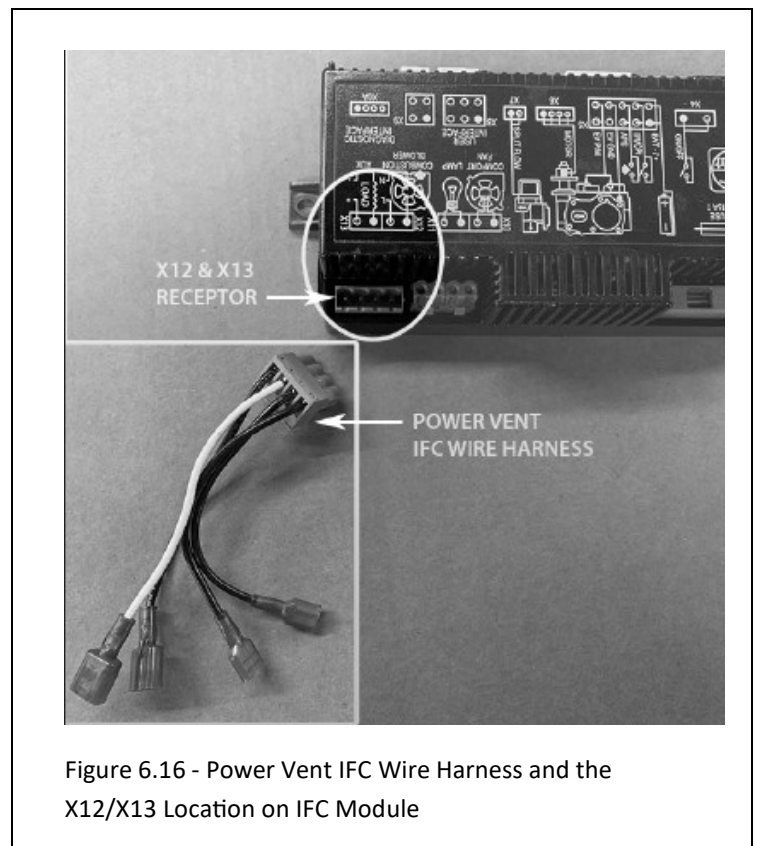

Figure 6.16 - Power Vent IFC Wire Harness and the X12/X13 Location on IFC Module
5. Ensure you complete the necessary preparation steps in Section 7.0 before this step. Locate the Power Vent IFC wire harness in the components packet. Plug the connector into X12 and X13 plug receptor. See Figure 6.16.